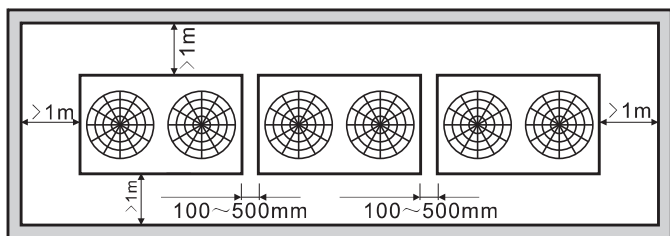

Fig. 3.9 Installation space of outdoor unit
- 3) When outdoor units are higher than surrounding barriers and they will be arranged in a row, please see Fig.3.9.